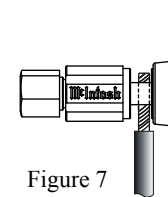

Figure 7
14. Connect the Loudspeaker hookup cables to the MC462 Negative Output Terminal and Positive Output Terminal identified as 2Ω (ohms), 4Ω (ohms) or 8Ω (ohms) connection to match the impedance of the Loudspeaker, being careful to observe the correct polarities. Insert the spade lug connector or prepared section of the cable end into the terminal side access hole, and tighten the terminal cap until the cable is firmly clamped into the terminals so the lugs or wire cannot slip out. Refer to figures 7 and 8.